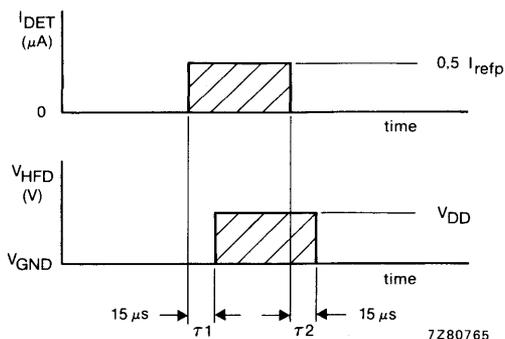

Fig. 4 Delay time  $\tau$  between  $I_{DET}$  and  $V_{HFD}$ .
- HFD delay times  $\tau_1$  and  $\tau_2$  measured as shown in Fig. 4.